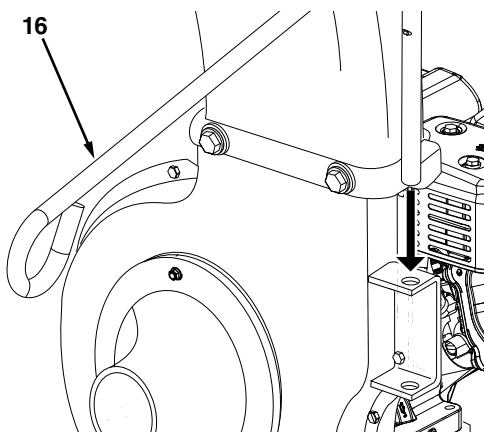

FIGURE 8
- Place the hose hanger rod (16) down into the hose hanger bracket on the impeller housing assembly. See figure 8.